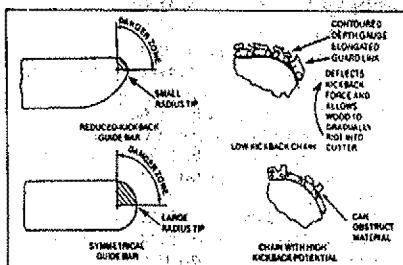

Figure 5
- **Reduced-Kickback Guide Bar**, designed with a small radius tip which reduces the size of the kickback danger zone on the bar tip. Figure 5. A Reduced-Kickback Guide Bar is one which has been demonstrated to significantly reduce the number and seriousness of kickbacks when tested in accordance with the safety requirements for gasoline powered chainsaws as set by the American National Standards Institute, Inc., Standard B175.1-1985.
- **Low-Kickback Chain**, designed with a contoured depth gauge and guard link which deflect the kickback force and allow wood to gradually ride into the cutter. Figure 5. Low-Kickback Saw Chain is chain which has met the kickback performance requirements of ANSI B175.1 when tested on a representative sample of chain saws below 3.8 cubic inch displacement specified in ANSI B175.1-1985. (American National Standard for Power Tools - Gasoline Powered Chain Saws - Safety Requirements).